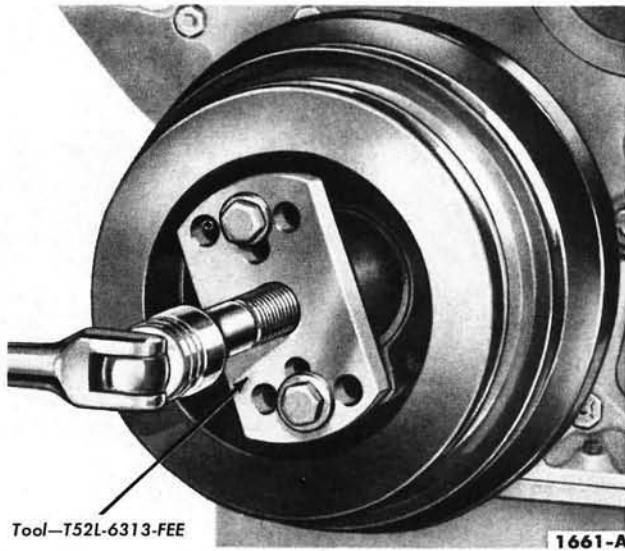

FIG. 29—Damper Removal
2. Remove the damper cap screw and washer. Install the removal tool and remove the damper (Fig. 29).